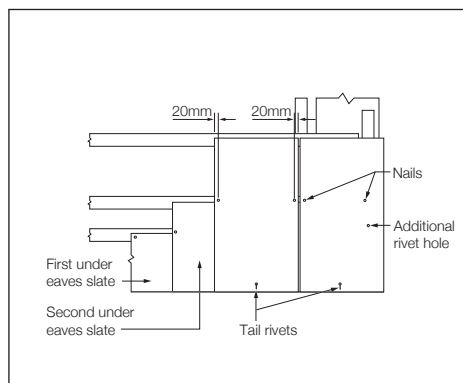

Fig. 4 – 1st course of standard slates
4. Fix the first course of full size slates. At the verge, a second hole is required to allow for the copper disc rivet for the next course. This is drilled 50mm from the outside edge of the slate, and 25mm plus gauge from the bottom edge or tail (Fig. 4).